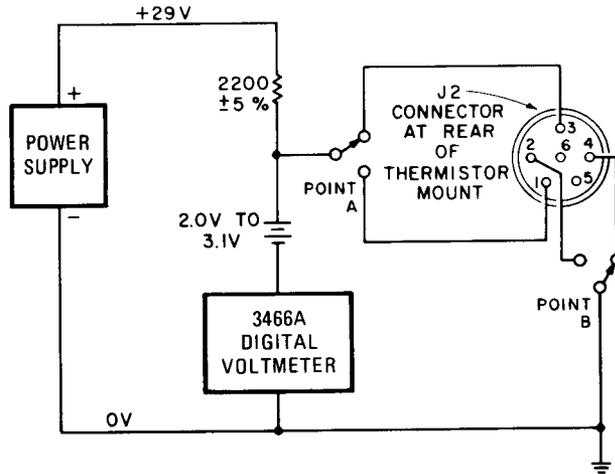

Figure 8. Thermistor Resistive Match Test
- Replace the RF unit, filter and directional detector in the 12 GHz test setup with the instruments shown in Figure 8.
- a. Connect the equipment as shown in Figure 8. Set instrument controls as follows: